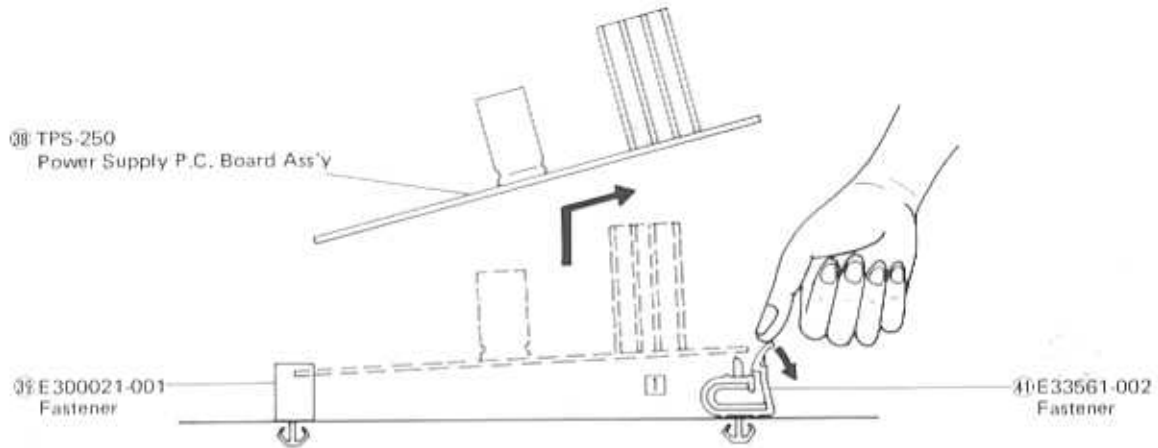

Fig. 5
- Press the Fastener **1** of Fig. 5.
- Pull the C.B. as shown Fig. 5 out.